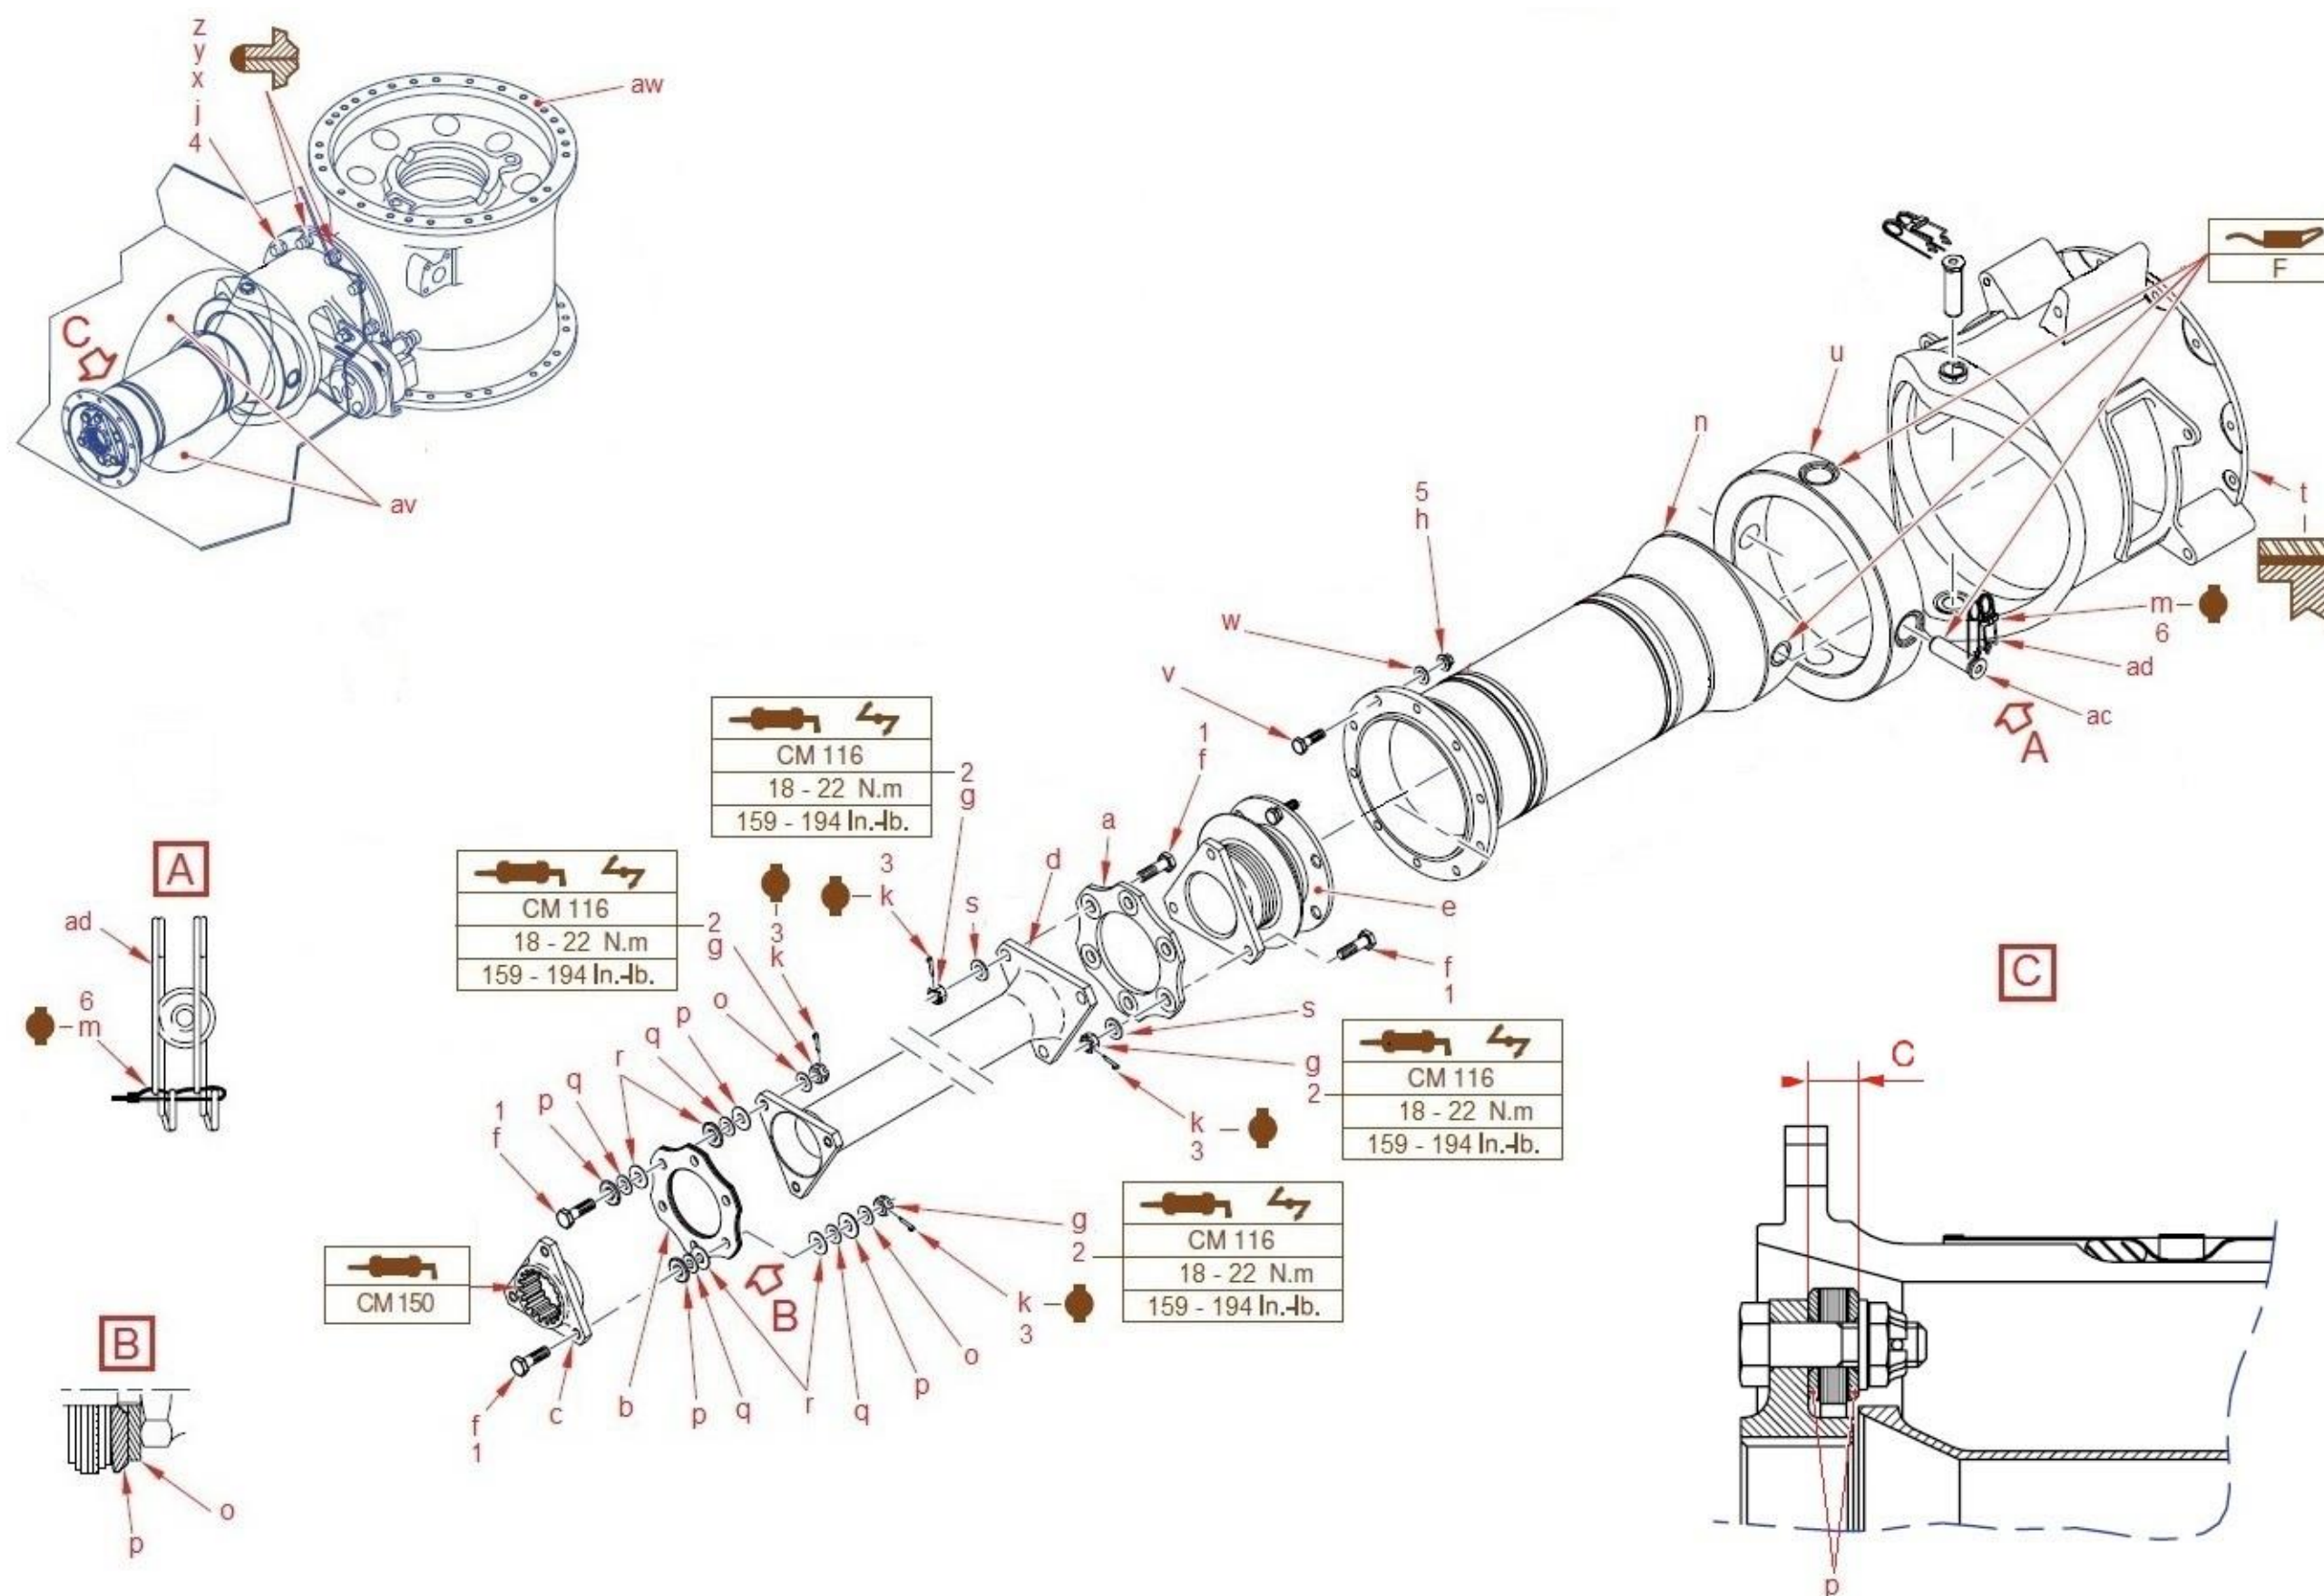
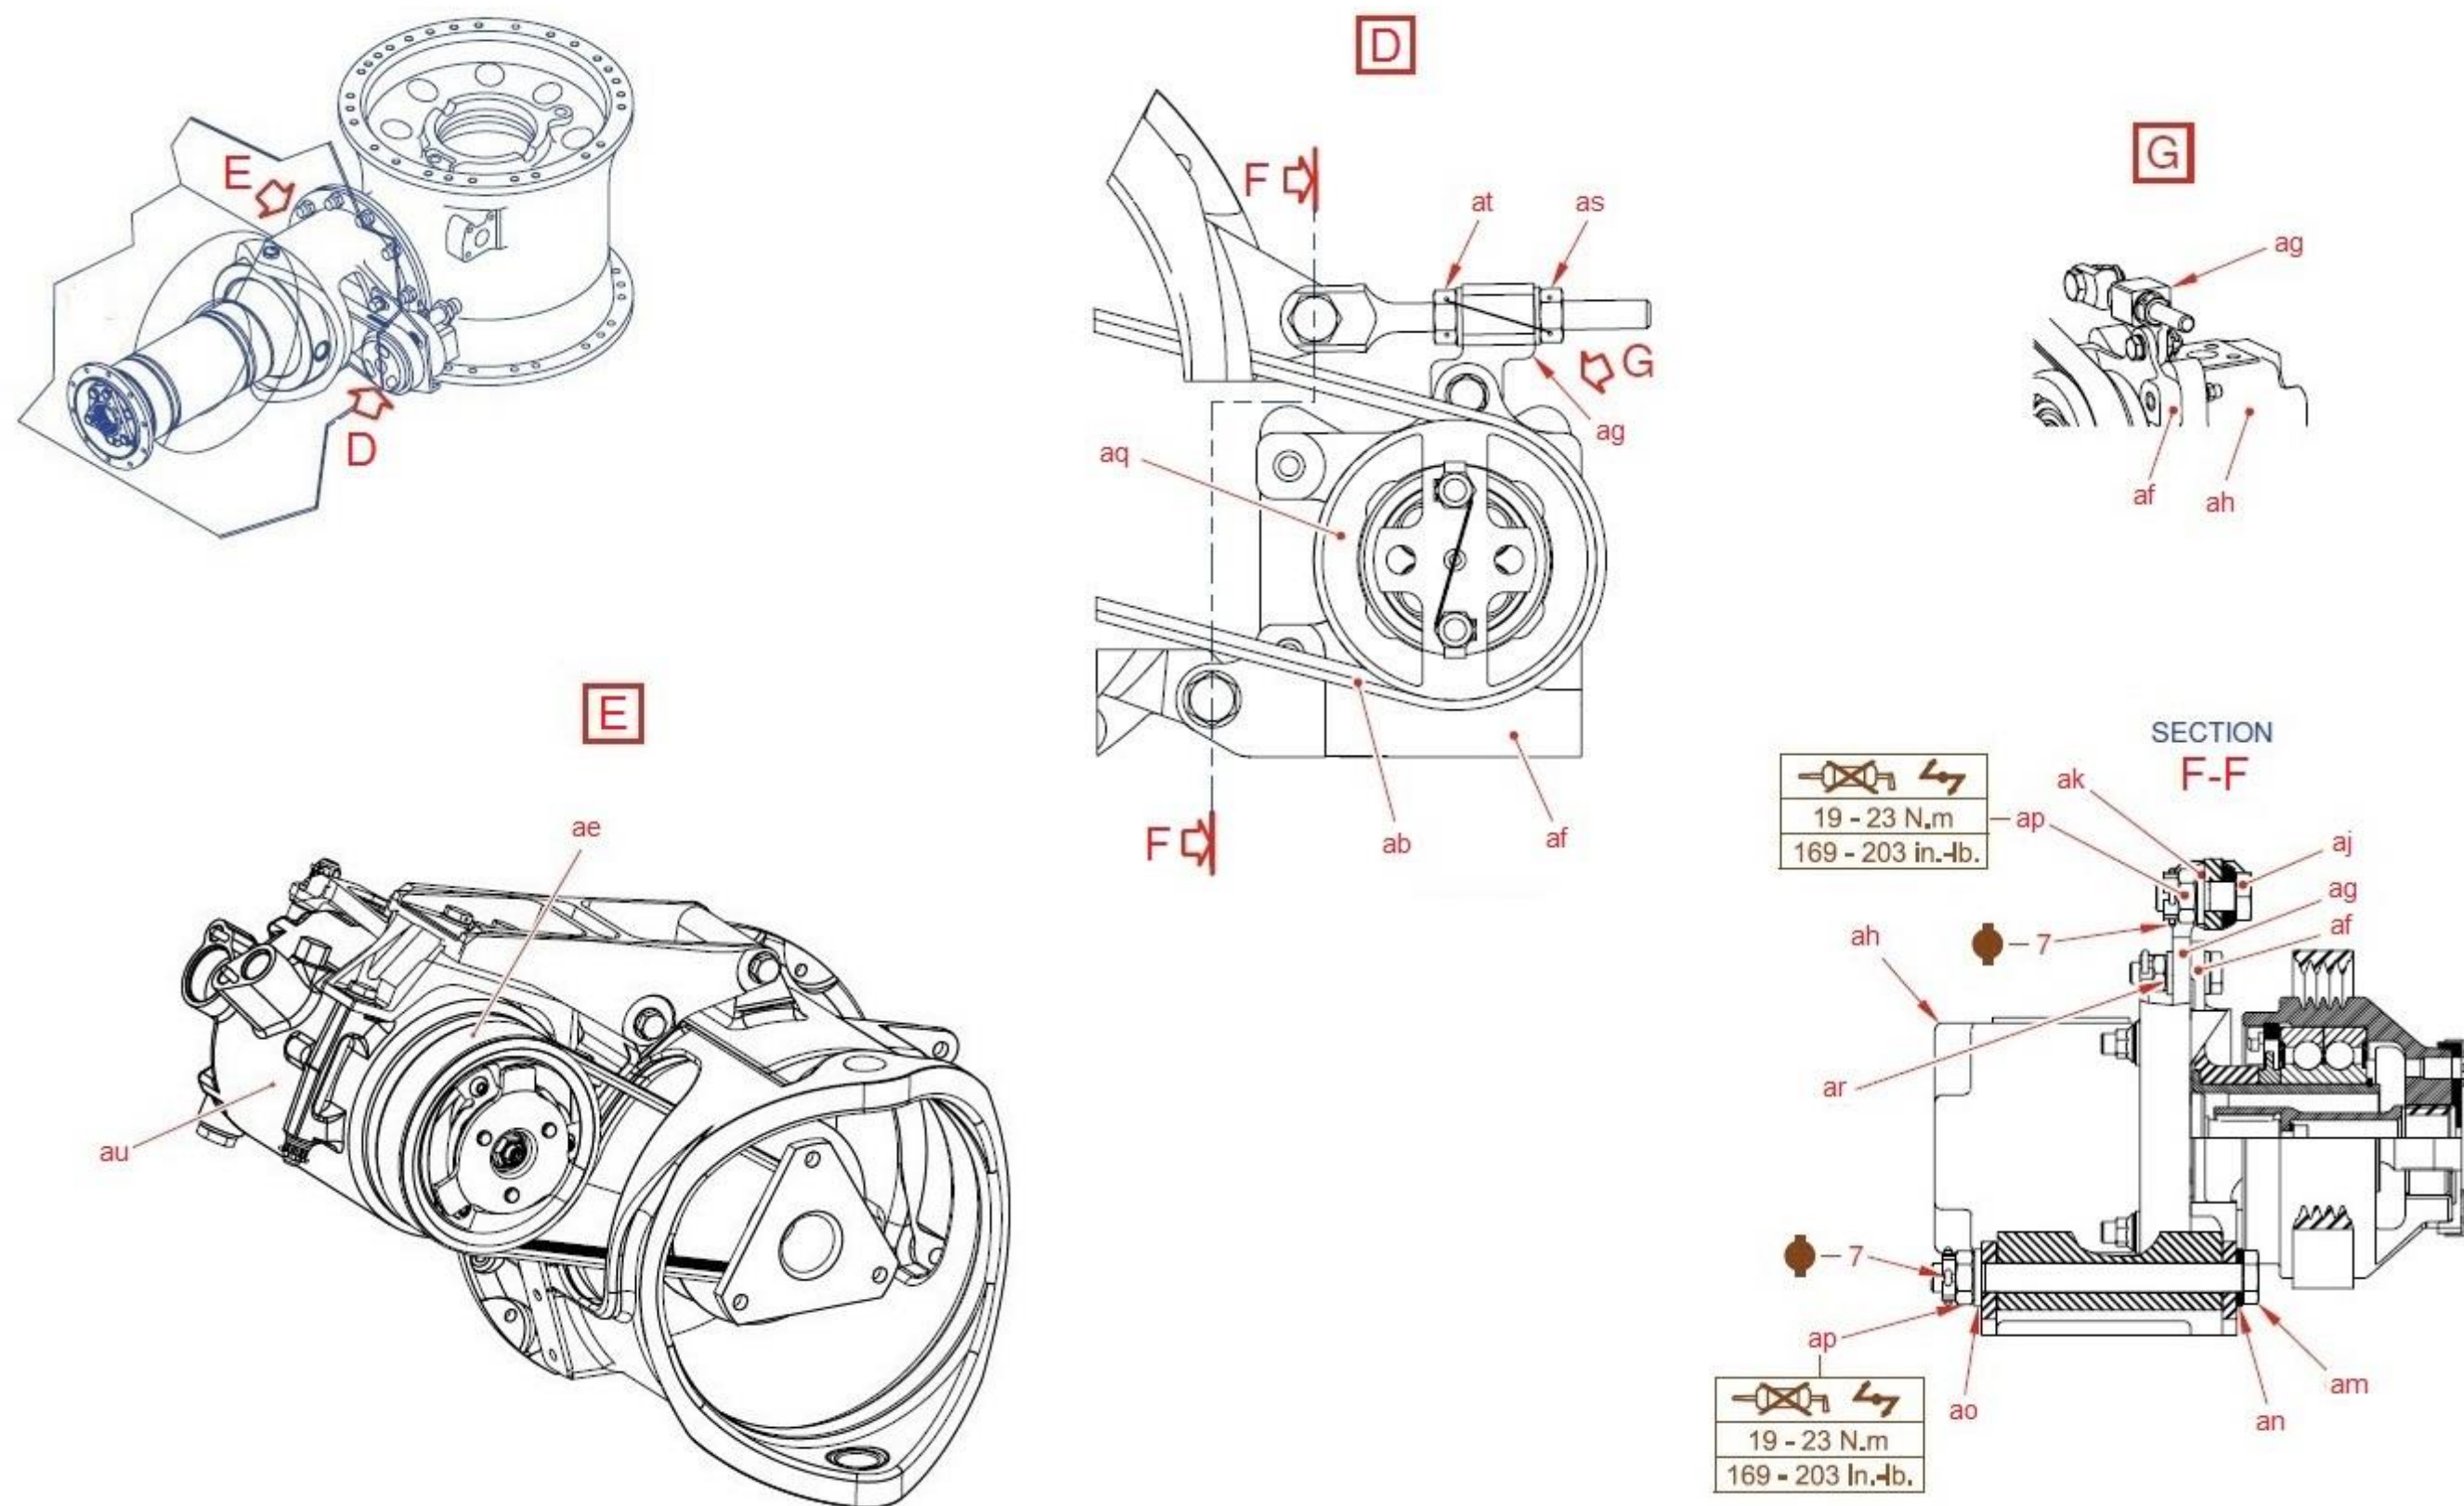

Figure 1
Figure 2
- Install one screw (1), washers (o), (p), (q), (r) and one nut (2) by respecting the order of the washers previously recorded.
- Tighten nuts (2) to indicated torque.
- Remove if necessary, the assembly to add or remove one or several flexible coupling disk(s) to obtain dimension "C" and tighten again nuts (2) to indicated torque.
- Lock the three nuts (2) with pins (3).
3.B.2.b.2. Attachment of the flexible coupling to the drive shaft on MGB side (Figure 1)
- Install one screw (1), washer (s), and one nut (2).
3.B.2.c. Installation of the MGB/engine coupling assembly (Figure 1 and Figure 2)
- Install engine junction casing (n) into MGB junction casing (t) (Figure 1).
- Lubricate the splines of engine flange (c) with grease (10).
- Install hydraulic pump drive belt (ab) and, if necessary, optional drive belt (ae) on hydraulic pump drive pulley (e) which is always on MGB (aw) (Figure 2).
- . Install the three screws (1) with washers (o), (p), (q), (r) and nuts (2).
- . Tighten nuts (2) to indicated torque.
- . Lock the three nuts (2) with pins (3).
- Push engine junction casing (n) against the engine and attach it with screws (v), washers (w) and nuts (5).
- Tighten nuts (5) to the tightening torque specified in AMM Task 63-11-00, 4-2.
- . Install three screws (1), washers (s) and nuts (2).
- Make MGB junction casing (t) slide frontwards, complete with gimbal ring (u) and introduce hydraulic pump drive belt (ab) and, if necessary, optional drive belt (ae) in the windows of MGB connection casing (t) (Figure 2).
- Coat the face in contact with MGB junction casing (t) with corrosion preventive compound (11) (Figure 1).
- Push MGB junction casing (t) against MGB (aw) and attach it with screws (x), washers (y), (z) and nuts (4).
- Tighten nuts (4) to the tightening torque specified in AMM Task 63-11-00, 4-2.
3.B.2.d. Installation of equipment items on MGB/engine coupling assembly (Figure 1 and Figure 2)
- Install hydraulic pump drive support (af) (DETAIL D - Figure 2):
- Lock nuts (ap) with pins (7).
- Apply a layer of sealing compound (15) on screw (x) heads / washers (y) and (z) / nuts (4) that attach MGB junction casing (t) / MGB (aw) (Figure 1).
- Apply a layer of sealant (14) around the mating face of MGB junction casing (t) / MGB (aw).
- Touch-up primer (12) and grey polyurethane paint (13).
After compliance with this ALERT SERVICE BULLETIN, and pending this update, use the tightening torque indicated on Figure 1 on the nuts attaching the flexible couplings.